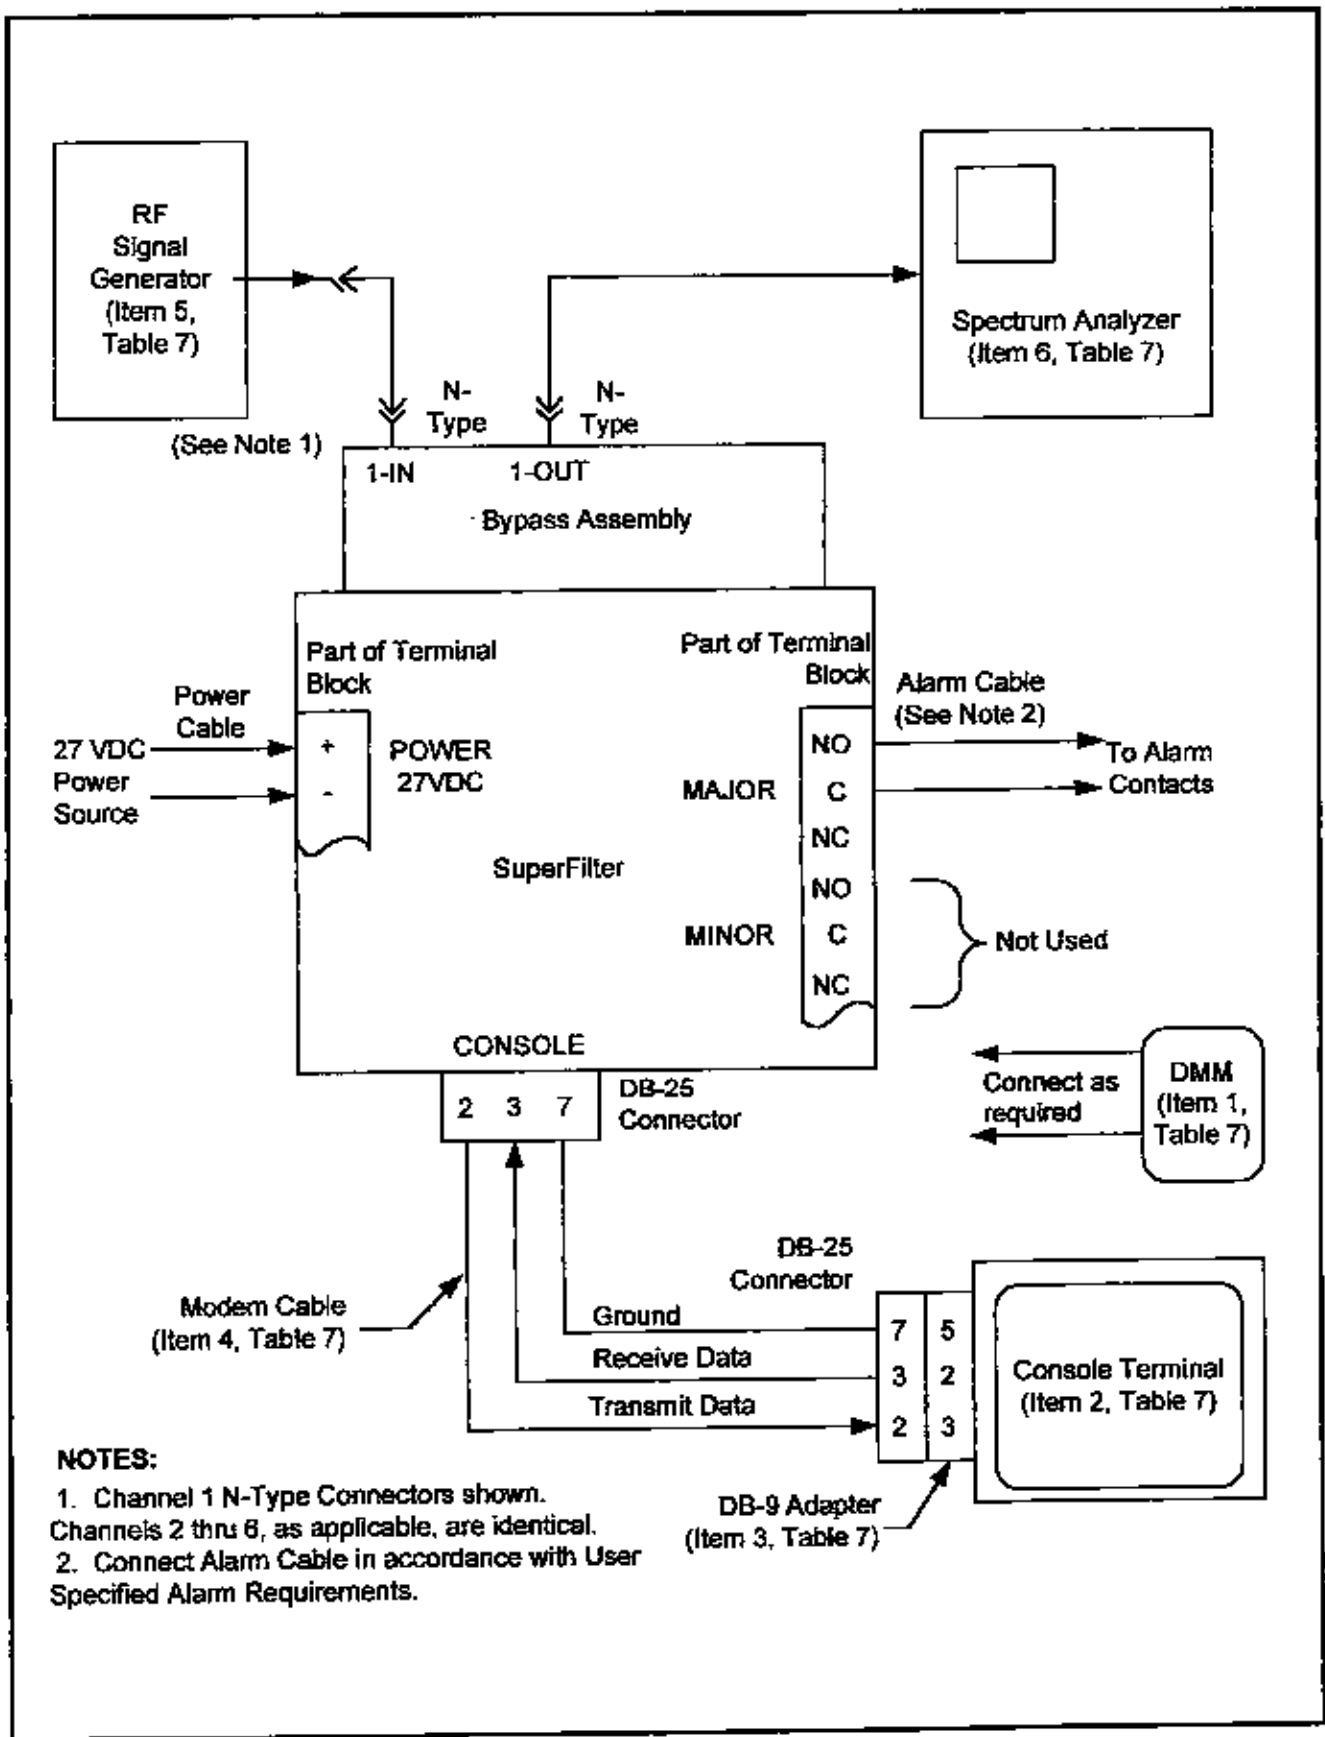
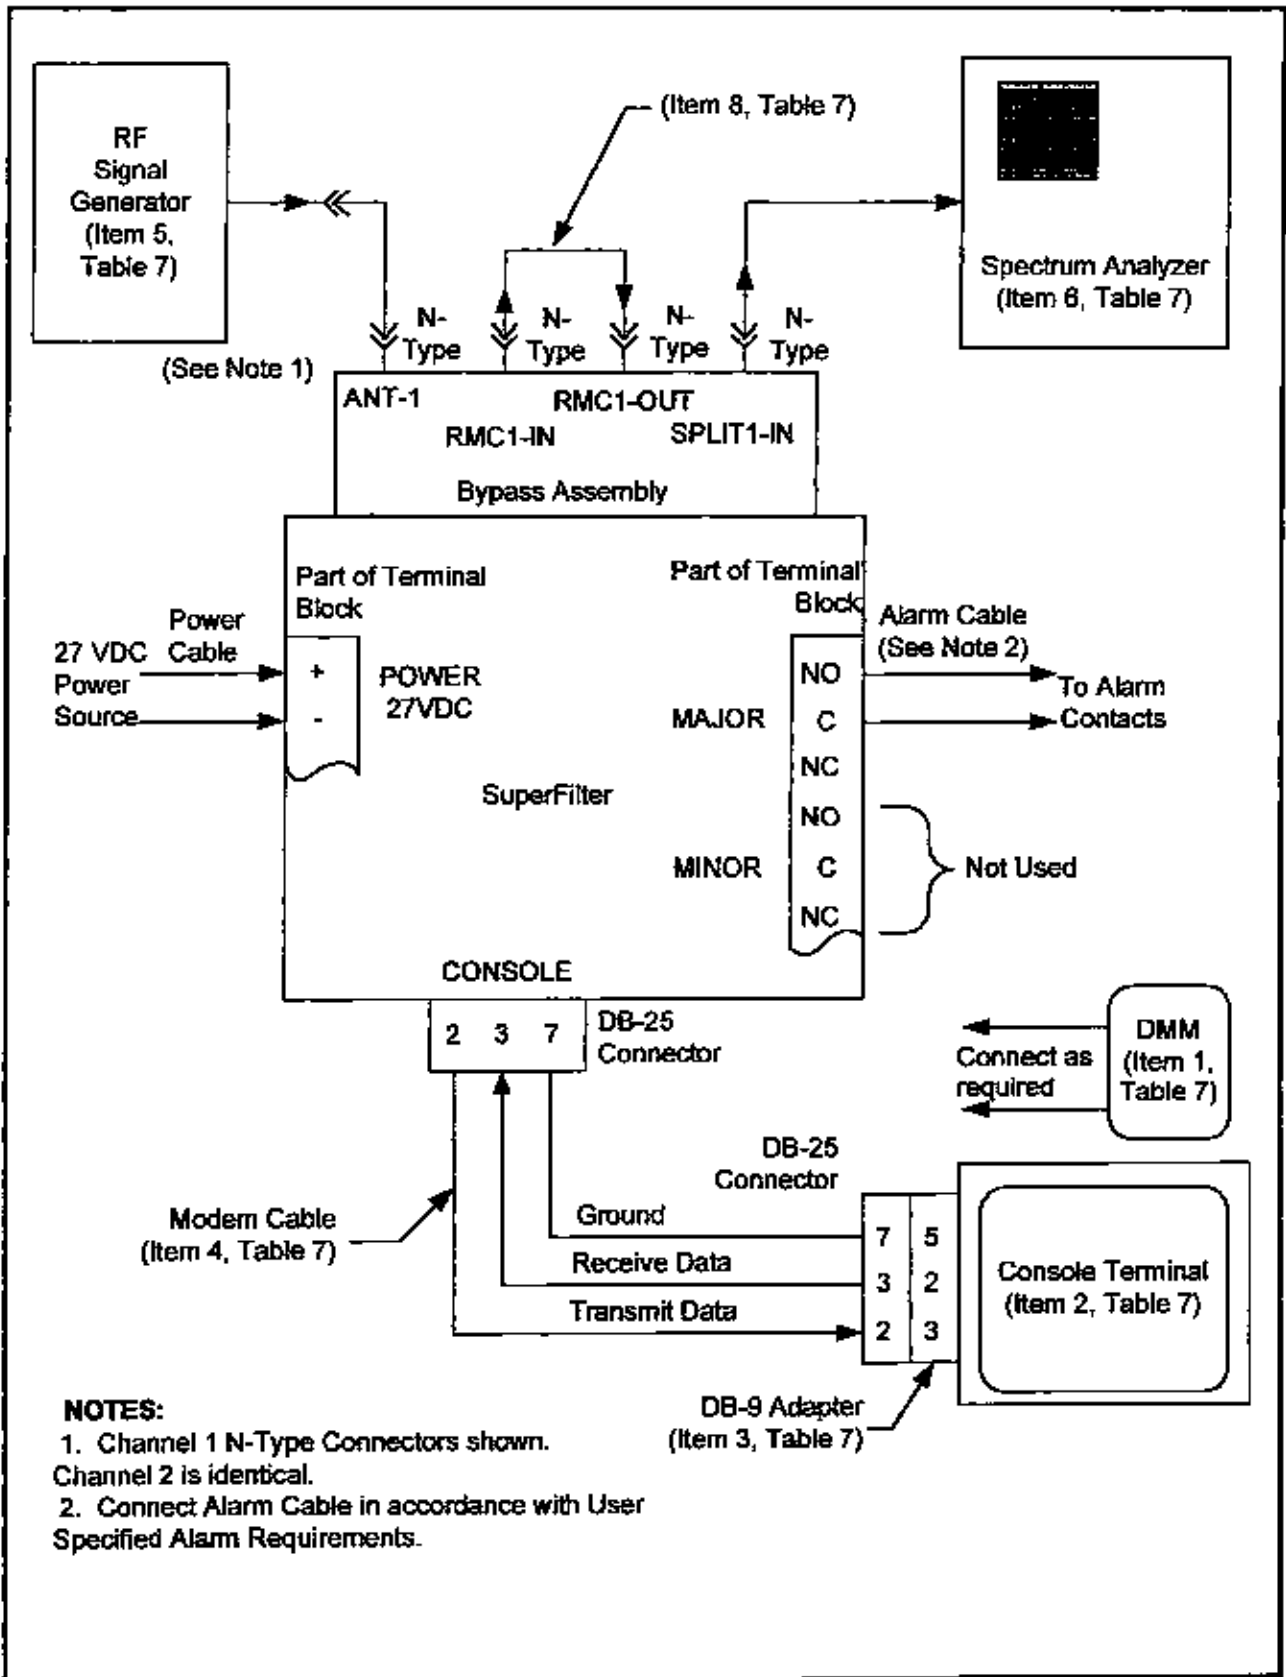
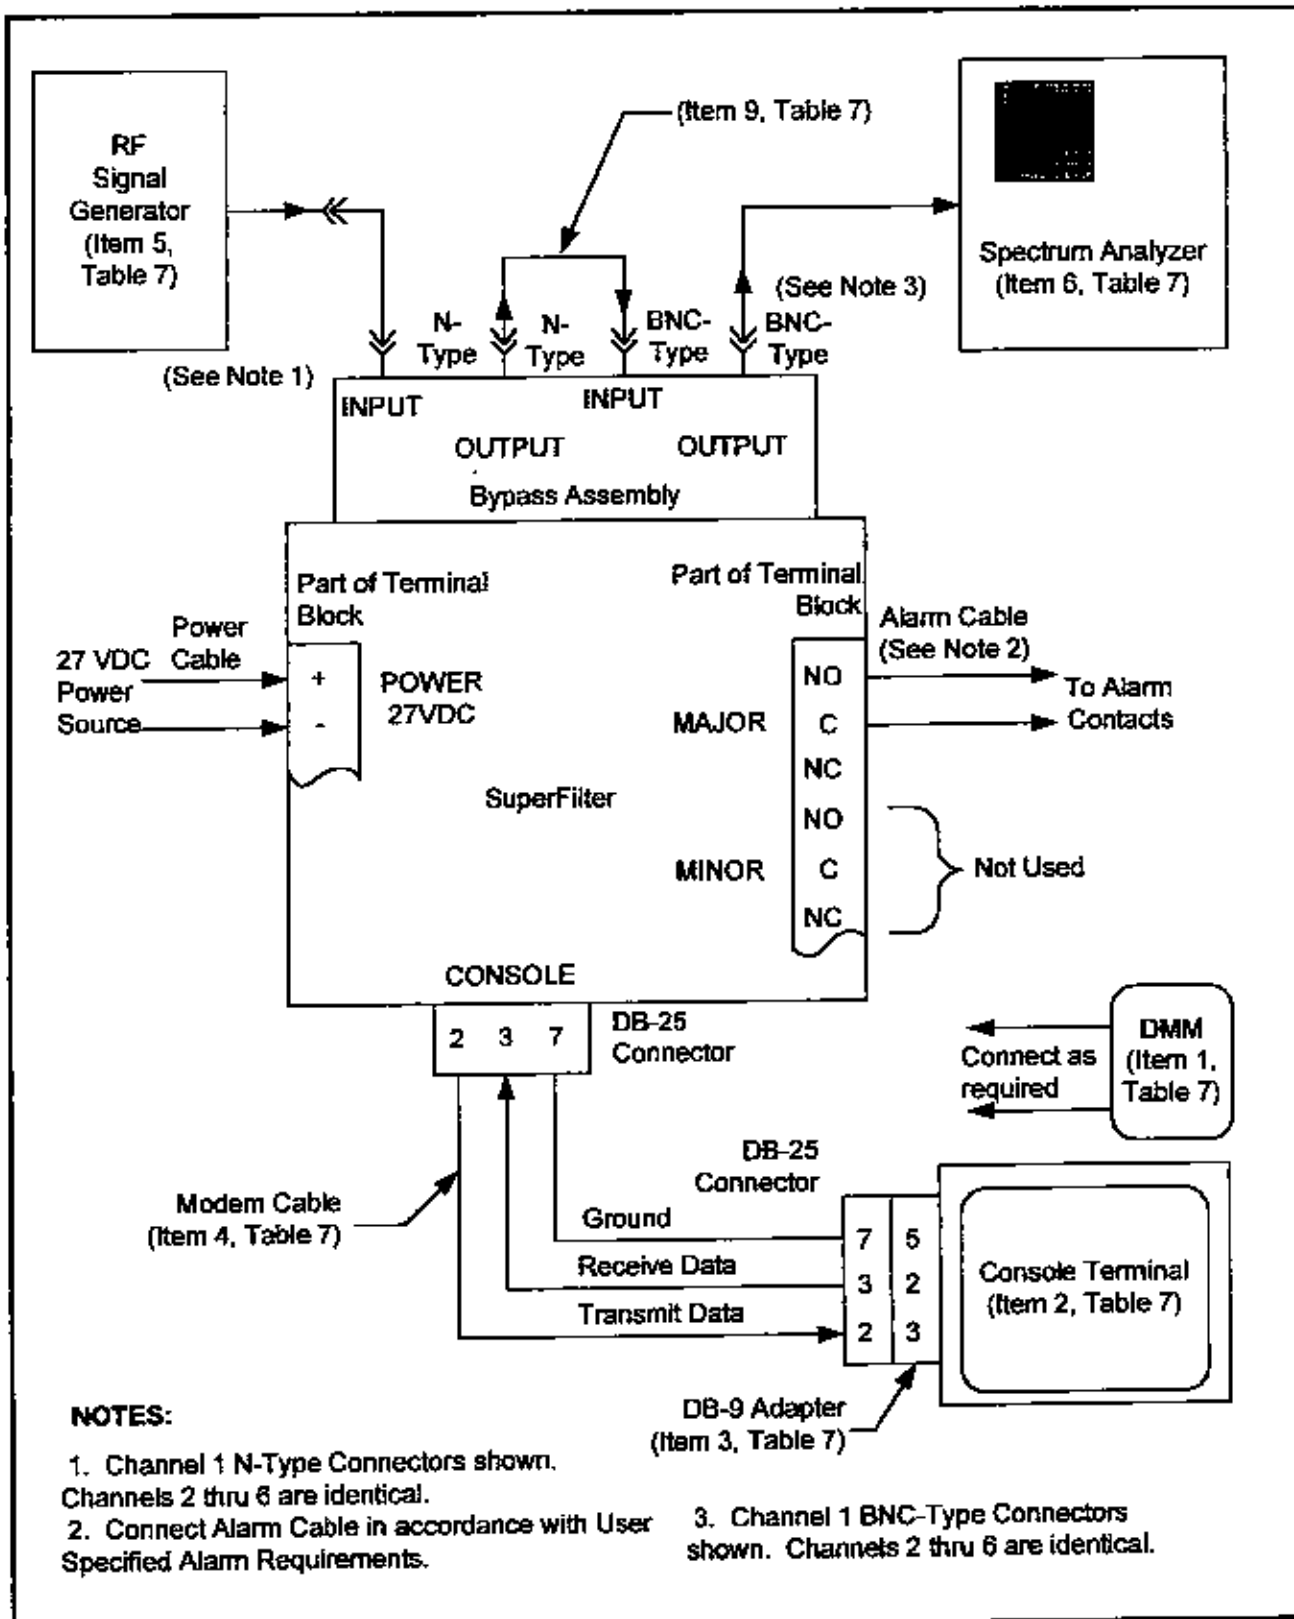

Figure 12. SuperFilter Cascade Configuration Test Setup
Figure 13. 2-Pak SuperFilter VGO and RO Configuration Test Setup
Figure 14. 6-Pak SuperFilter VGO and RO Configuration Test Setup
During these procedures, refer to the appropriate SuperFilter test setup diagram: Figure 12 for a Cascade Configuration, Figure 13 for a 2-Pak VGO and RO Configuration, or Figure 14 for a 6-Pak VGO and RO Configuration.
3.	On VGO and RO Models, connect jumper cable (Item 8, Table 7) in accordance with Figure 13 or 14. Set Bypass Assembly gain adjustment to zero (0) dB.
4.	The SuperFilter is commanded into Bypass Mode using the Console Terminal. Type the following command at the Console Terminal: (S)ET (F)ORCED (B)YPASS (ON)<Enter>
6.	Type the following command at the Console Terminal to return the SuperFilter to Normal Mode of operation: (S)ET (F)ORCED (B)YPASS (OFF)<Enter>